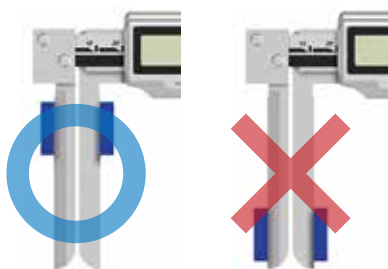

Fig. 3
1. Make sure to apply constant force during measurement, and measure an object as close as possible to the root of the jaws. It is better to avoid measurement with the tip of the jaws. (**Fig. 3**)